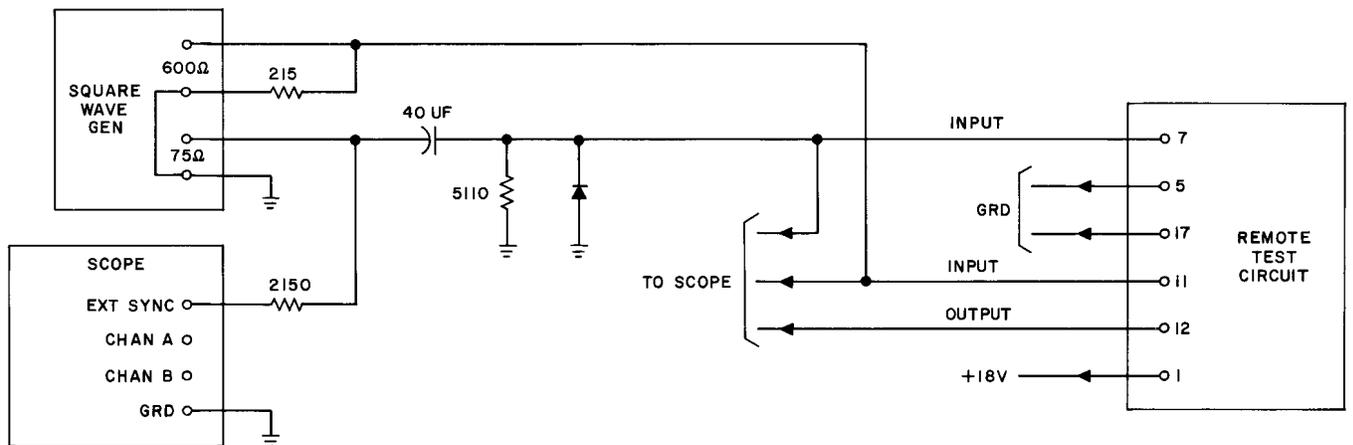

Fig. 59A—Remote Test Circuit Pack Test Circuit
- (5) Connect the circuit pack to the suggested test circuit shown in Fig. 59A.